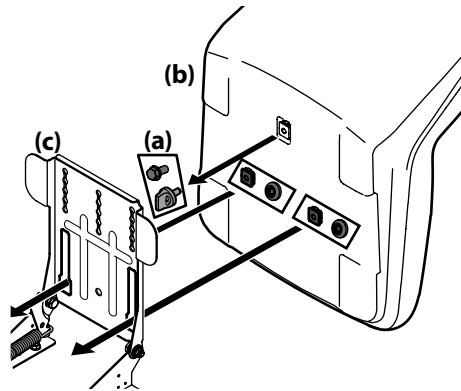

Figure 2-5
- Remove the seat adjustment knob/bolt (a) from the bottom of the seat (b). See Figure 2-5.
- Align the seat (b) over the seat pivot bracket (c) as shown in Figure 2-5 and fit the seat (b) onto the seat pivot bracket (c) inserting the two tabs (square or round) on the seat (b) bottom into the slots on the seat pivot bracket (c).